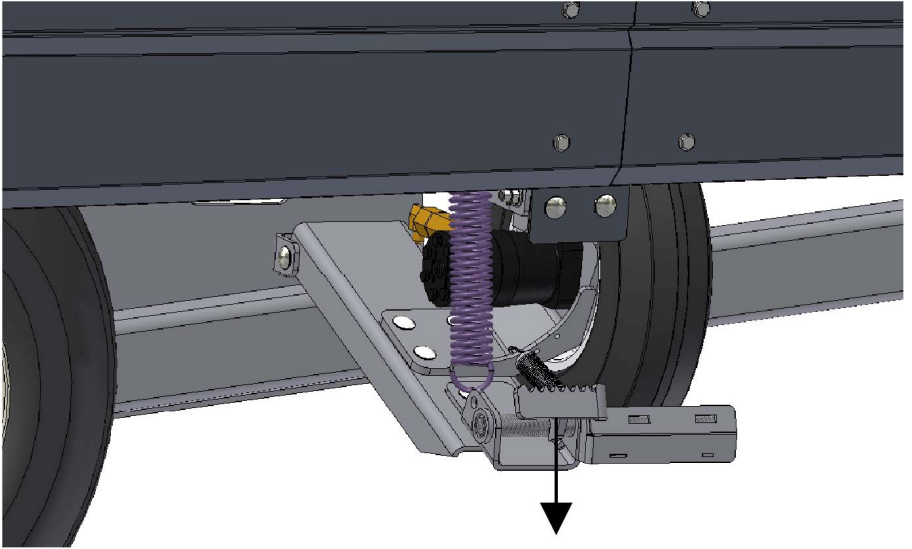

Figure 13 – Brake pedal
3. If one of the supports is not at a good height to work with, press on the hoop brake (Figure 13) and turn the hoop with your hand until it is in the position you need.
1. Press on the hoop brake (Figure 13) to engage the brake so that the hoop does not turn during installation of the film.